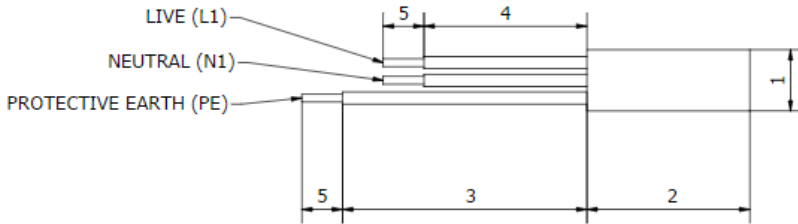
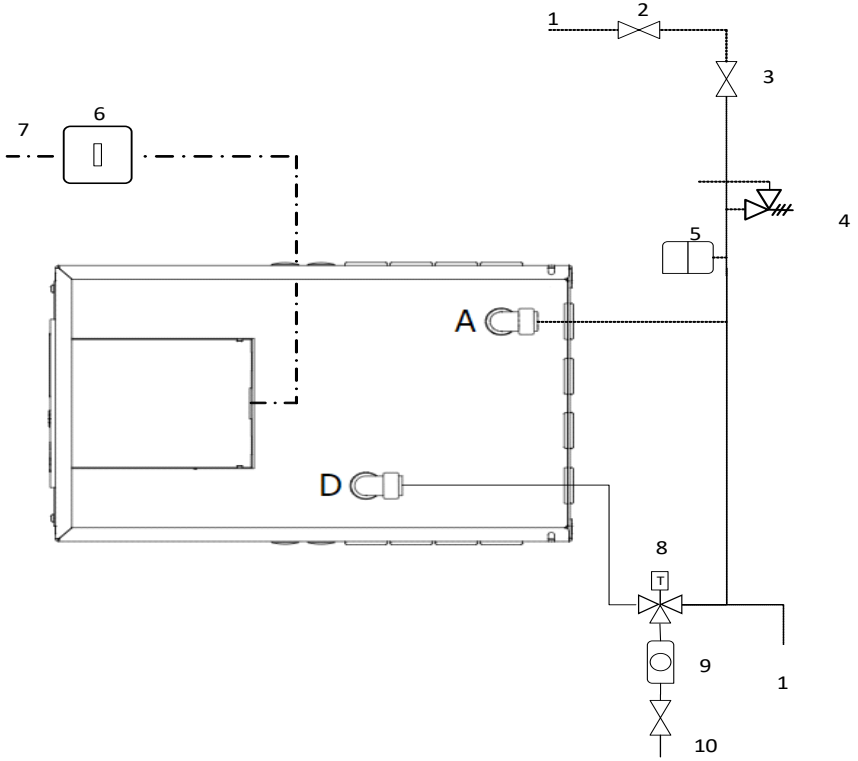

Figure 10: Wire length preparation diagram
Figure 12.1: Example wiring option 1 schematic (see Figure 3 for piping and electrical options available)
- The mains power cable to the Sunamp Controller should be a minimum of 2.5mm2, 3 core HO5 VV-F sheathed cable, to BS 6500. This cable must be prepared according to Figure 10 (below), where the Green/Yellow (Protective Earth) wire is 15mm longer than the Brown (Live) and Blue (Neutral) wires.
- Run and connect 3 Core mains power supply cable (16A, minimum 2.5mm2 CSA) from the local 2-pole isolator to the Heat Battery controller (Figures 12.1 and 12.2).
- Prepare, if necessary (Figure 10) and wire the mains power cable in the following terminals (Figure 12.1):